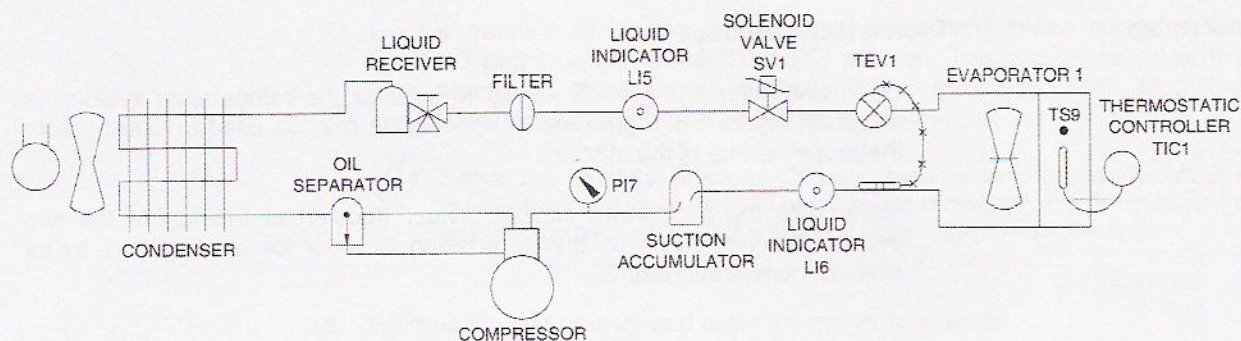

Figure 5-8. Schematic diagram of a refrigeration system using a thermostatic controller.
A schematic diagram of a simple refrigeration system is shown in Figure 5-8. A thermostatic controller, TIC1, is used to control the temperature of the refrigerated space at evaporator 1. When the temperature of the refrigerated space increases or decreases, the controller opens or closes its contacts to energize or de-energize the solenoid valve SV1. The solenoid is closed when its coil is de-energized and opened when the coil is energized.
1. Open and close the manual valves to arrange the refrigeration system as shown in Figure 5-8. Figure A-5 in Appendix A may be used to assist you in the proper set-up of the system.